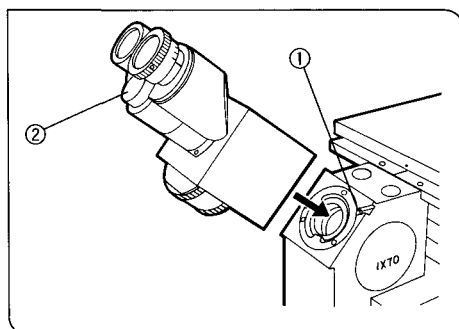

Fig. 37
(Figs. 37, 38)
1. Using the Allen screwdriver, loosen the observation tube clamping screw ① on the observation tube mount. (Fig. 37)
2. Insert the circular dovetail mount of the observation tube into the observation tube mount, placing the observation tube so that the inter-pupillary distance scale numbers ② are seen right side up. Clamp the observation tube by tightening the clamping screw ①.